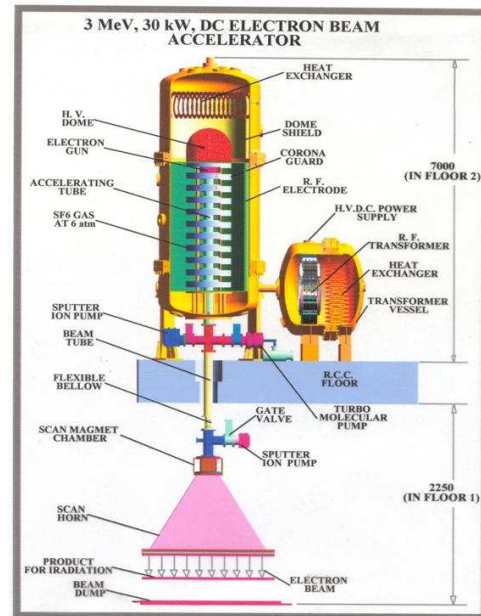

Figure 1: Schematic of DC Electron Accelerator.
D.C. electron accelerators of energy ranging from a few hundred keVs to few MeVs and power from a few kilowatts to hundreds of kilowatts have industrial applications like medical sterilization, rubber vulcanization, polymerization & cross-linking, pollution control from thermal power stations etc. A 3 MeV, 30 kW DC accelerator is under development at Electron Beam Centre, Kharghar, Navi Mumbai by BARC to demonstrate such industrial applications. A schematic of the accelerator is shown in Fig. 1.